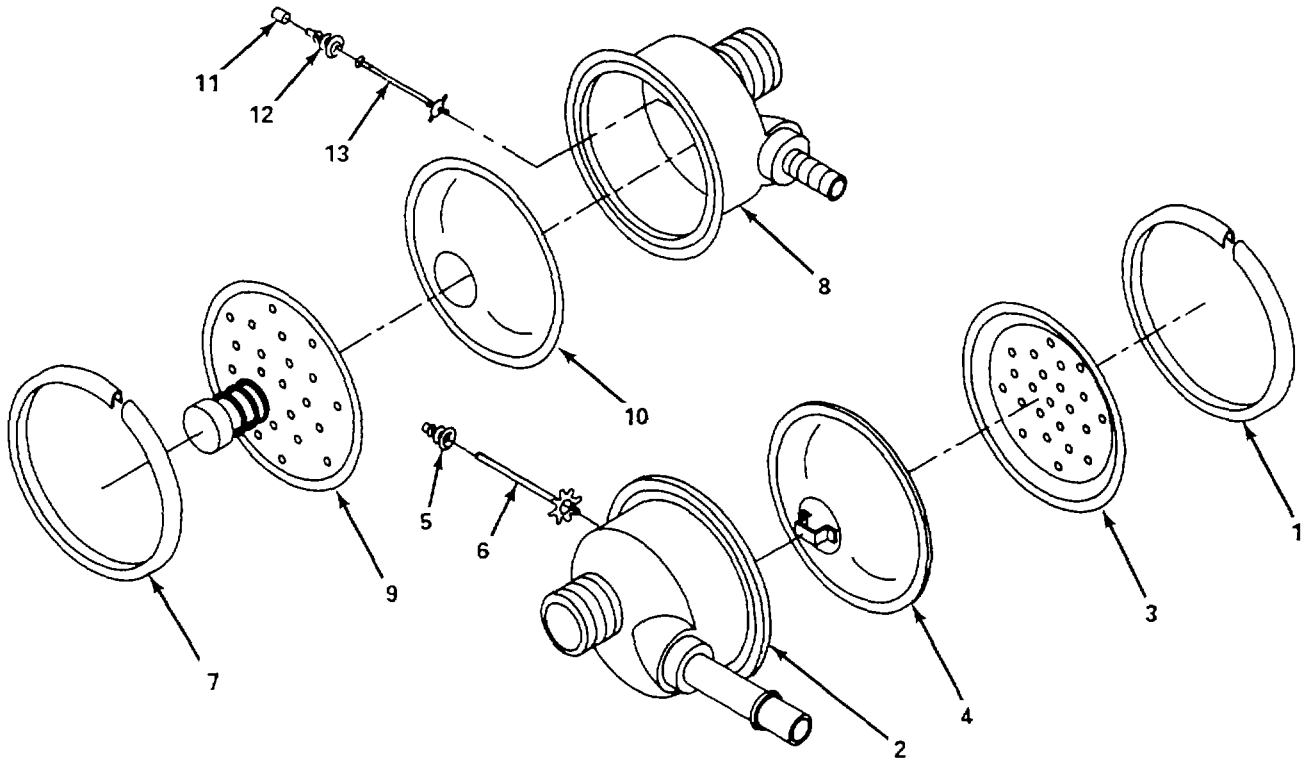

Figure 6-43. Demand and Exhaust Regulators, Repair.
Repair. (figure 6-43)**WARNING**
(2) Demand regulator. (figure 6-43)
- (a) Remove clamp (7) from case (8).
- (b) Remove cover (9) from case (8) and remove diaphragm (10).
- (c) Remove clamp (11), valve spring (12), and valve stem (13).
- (f) Install valve stem (13), valve spring (12), and secure with clamp (11).
- (g) Install diaphragm (10) in case (8) and install cover (9) and secure with clamp (7).